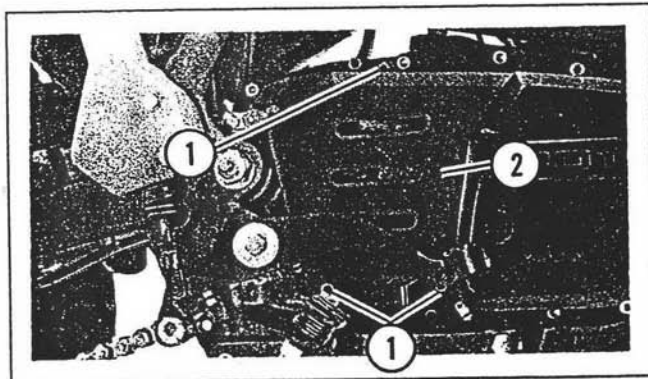

Figure 3-2. Chain Cover
4. See Figure 3-2. Using a 5 mm hex key, remove socket head screws (1) and chain cover (2) from right crankcase assembly.
5. See Figure 3-2. Using a 5 mm hex key, install chain cover (2) on right crankcase assembly and secure with socket head screws (1).